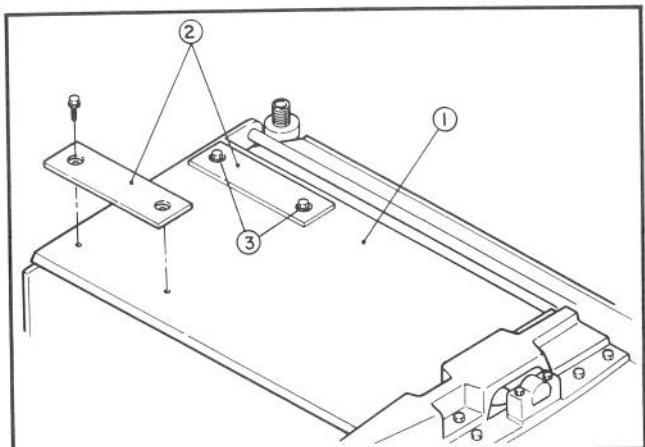

Figure 3
C. Install two tipper plates to the front L.H. or #2 cutting unit and the front R.H. or #3 cutting units using capscrews that come with the tipper plates (Fig. 3). Discard the original cover screws that came on the cutting unit.